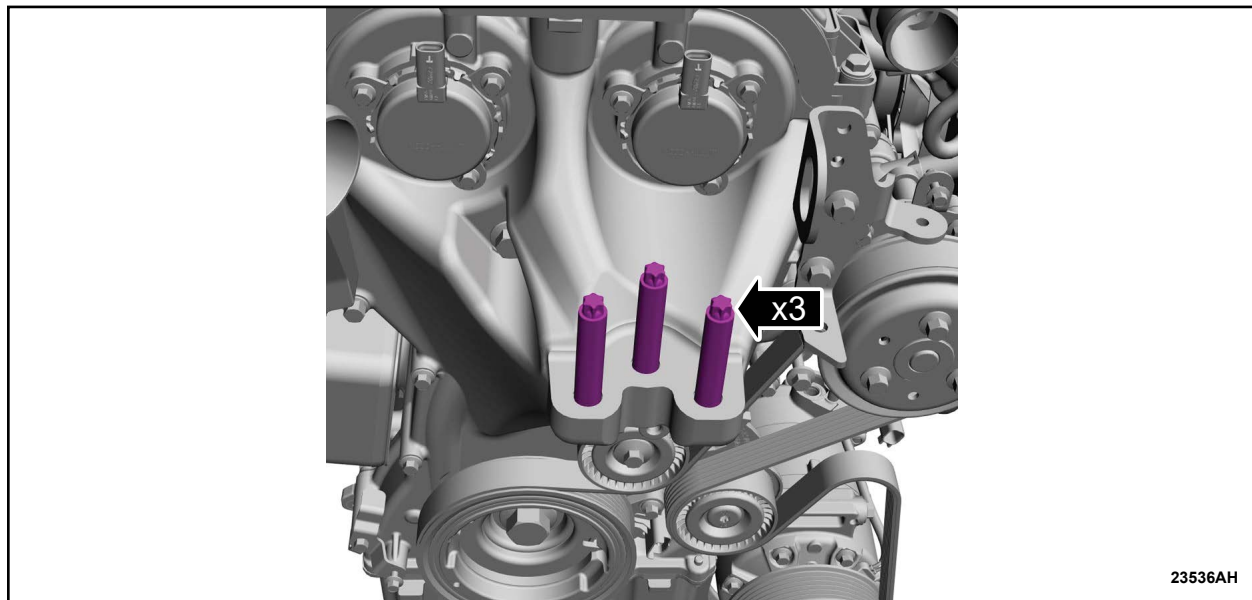

FIGURE 38
45. Tighten the RH engine mount studs. See Figure 38.